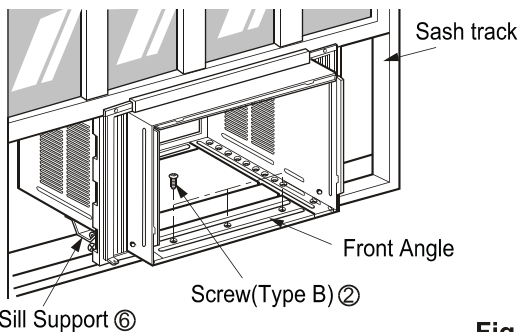

Fig. 5
5. Insert the Frame guides into the bottom of the cabinet. (Fig.5)
6. Insert the Frame Curtain into the Upper Guide and Frame Guides. (Fig.5)
7. Fasten the curtains to the unit with 8 Type A screws. (Fig.5)
6. The cabinet should be installed with a very slight tilt (about 1/2") downward toward the outside (See Fig. 5). Adjust the bolt and the nut of Sill Support ⑥ for balancing the cabinet.
7. Attach the cabinet to the window stool by driving the screws ② [Type B: Length 16mm (5/8 inch) and below.] through the front angle into window stool. (Fig. 5)
8. Pull each Frame Curtain ⑤ to each window sash track, and repeat step 2. (Fig. 5)